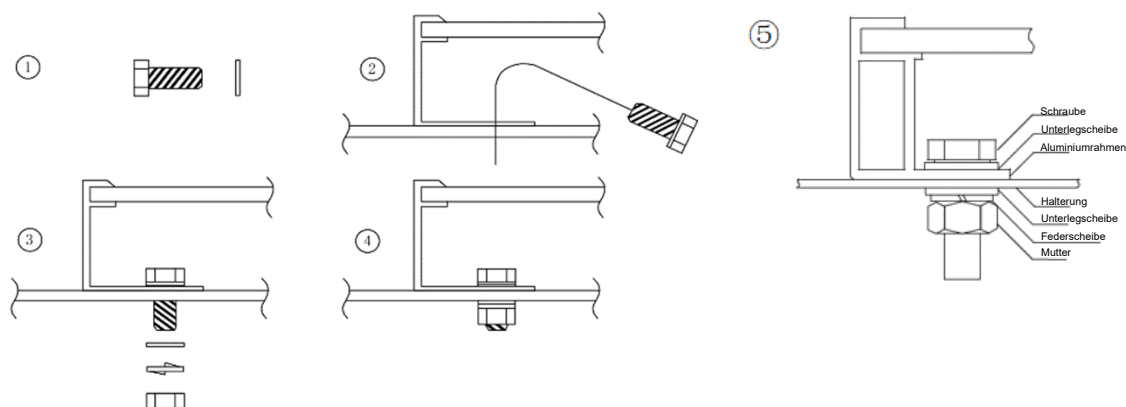

Figure 4
- The method and the specifications of the fixing parts are shown in figure 4 below:
<p>Figure 3 I-A</p>	 <p>Figure 4 I-B</p>